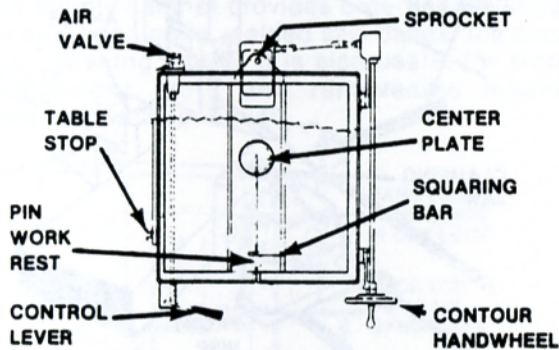

FIG. 32. AIR-POWERED WORKTABLE WITH CONTOUR SAWING ATTACHMENT - TOP VIEW.
- (2) Fixture and stock movement is controlled by a handwheel mounted at right front table corner. See Fig. 32.